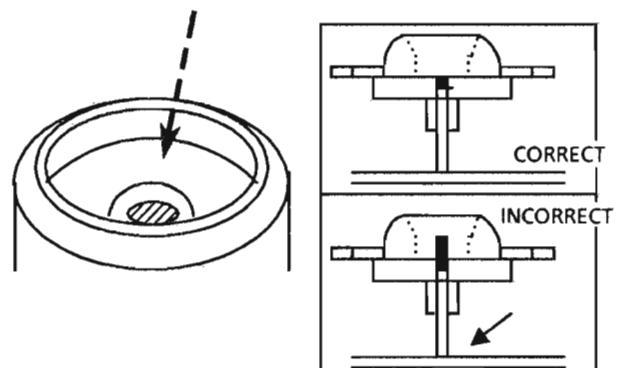

Fig 15
4. After inserting the turntable , bond the motor shaft and turntable together (at the section marked by an arrow in fig 15 on the left below).
5. Use "LOCKTITE" #460 bonding agent, and apply as little as possible . Take care not to allow any excess bonding agent to get onto the turntable . Be extremely careful not to allow bonding agent to adhere to the motor bearings (the section marked by an arrow in fig 15 on the right).